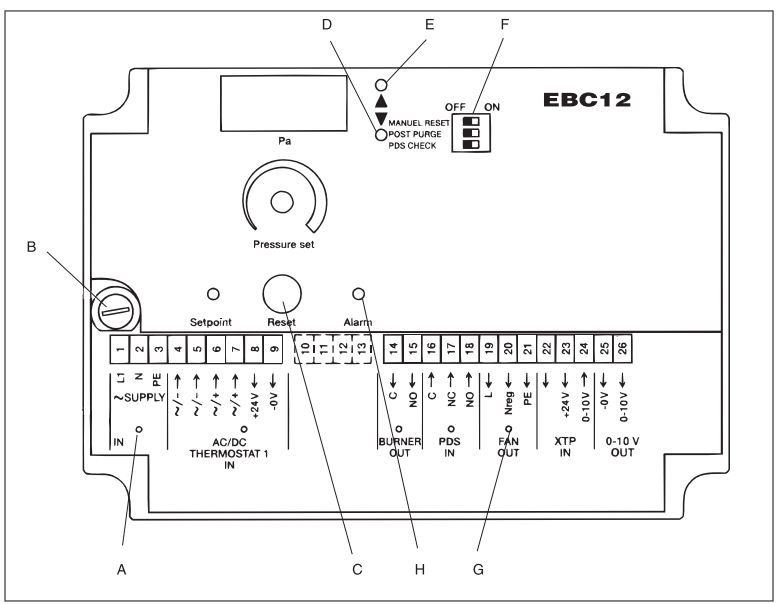

Fig. 16
**Some appliances require a certain startup procedure after a shutdown. Follow this procedure prior to pressing the RESET button (fig. 16-C).**